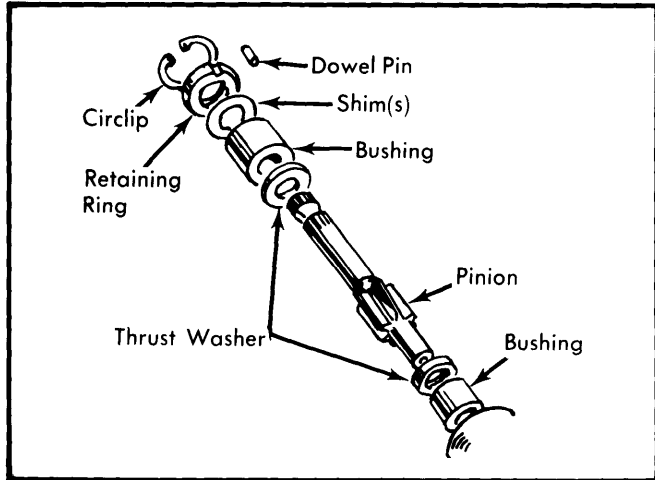

Fig. 3 Exploded View of Spitfire Pinion Assembly
2) Rotate rack shaft until teeth mesh with pinion. On Spitfire models, install pinion. Replace thrust washer, bushing, shims, and retaining ring with new "O" ring. Fit circlip and check to see that end play does not exceed .010" (.254 mm). Adjust shim pack if necessary. See Fig. 3.